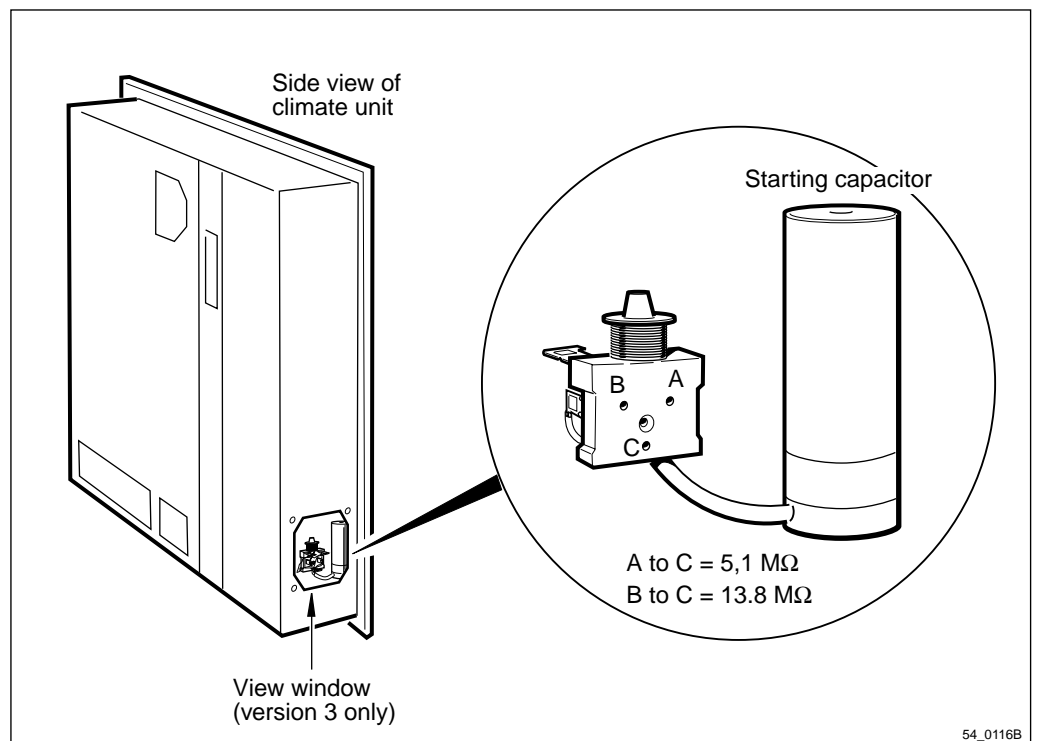

Figure 43 Starting relay and capacitor for all climate unit versions
3. If the AC mains still cannot be measured on pins 22 and 23, "COMP", after replacing the CCU card, refer to Figure 43 on page 89 and replace the starting capacitor on the compressor.
5. If the voltage is still incorrect, after replacing the starting unit and the capacitor for the compressor, measure the resistance on the coils in the compressor motor according to Figure 43 on page 89.